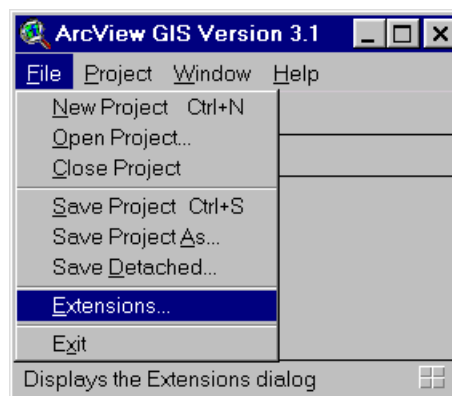

Figure 3. ArcView menu. To load the ATTACC LCM extension.
1. From the File menu, select the <Extensions> menu option. The Extensions dialog box appears, displaying the available extensions. Figure 3 shows the Arc-view menu.